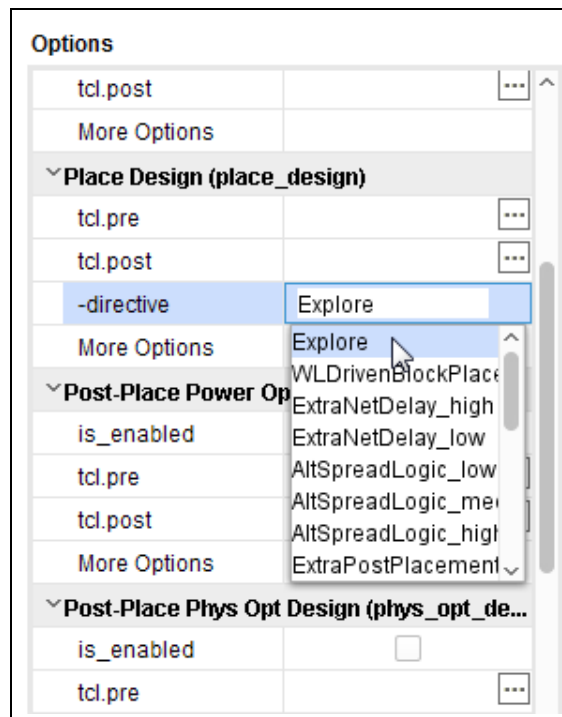

Figure 2-10: Edit Implementation Steps
8. Click the right-side column of a specific option to modify command options. See Figure 2-10 above for an example.